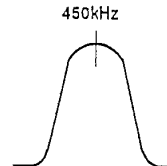

Fig. 2
- (1) Connect AM SG (999kHz mod. 30%; 400Hz; 63dB) input from JK101 AM antenna terminal IN.
- (2) Connect the oscilloscope to TP1 on the TUNER PCB ASSY.
- (3) Adjust T102 on the TUNER PCB ASSY for maximum output. (Fig. 2)